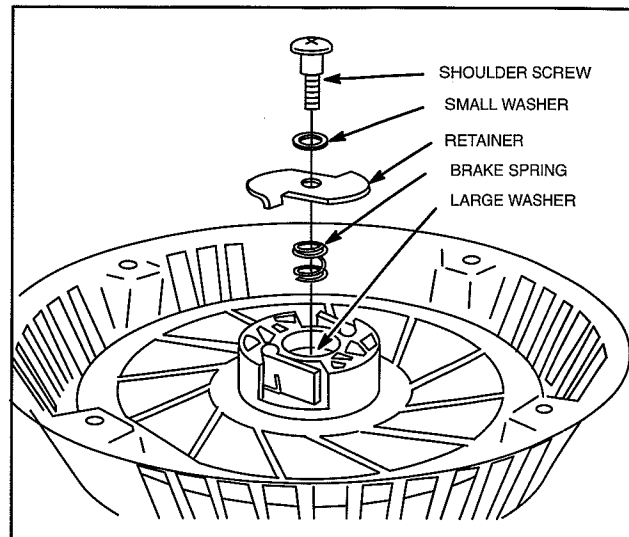

Fig. 25 – Install Retainer – Early Style
3. Place small washer on shoulder screw and install screw and washer in center pivot post, Fig. 25.